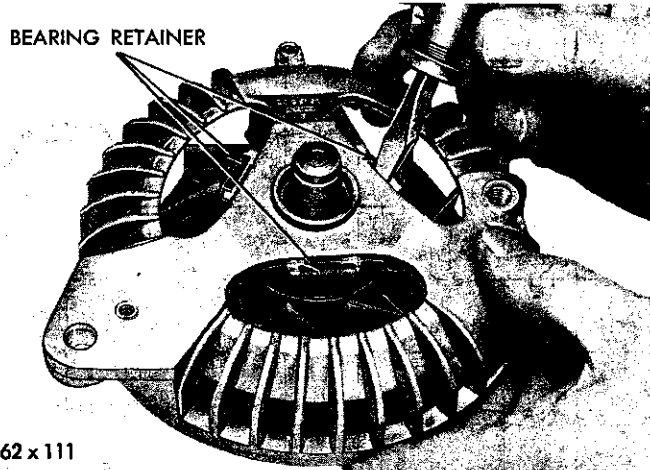

Fig. 16—Disengaging the Bearing Retainer from the End Shield
(5) Pry the drive end bearing spring retainer from the end shield with a screwdriver (Fig. 16).
(6) Support the end shield and tap the rotor shaft with a plastic hammer to separate the rotor from the end shield.